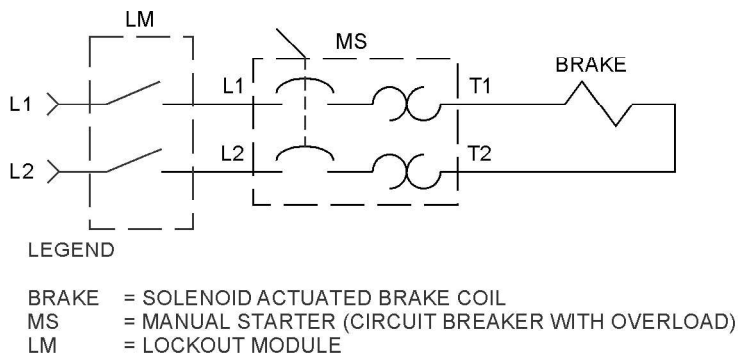

Figure 4-5. Brake coil testing circuit.
- 11.** Connect the circuit shown in Figure 4-5.